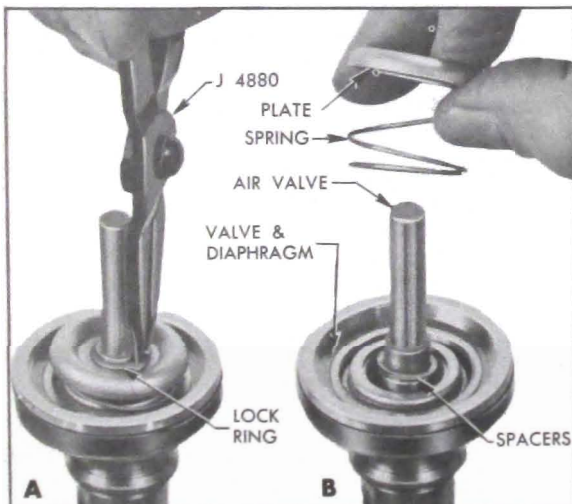

Figure 9-20—Removing Control Valve from Air Valve
valve and diaphragm assembly from air valve. See figure 9-20.
11. Place spacers selected in Step 9 on shoulder of air valve and install floating control valve and diaphragm assembly with rubber valve seat against the seat on air valve. Place valve diaphragm spring over the spring retainer, install valve reaction plate with *concave side of rim* against the spring, then depress these parts and install lock ring. See figure 9-20.